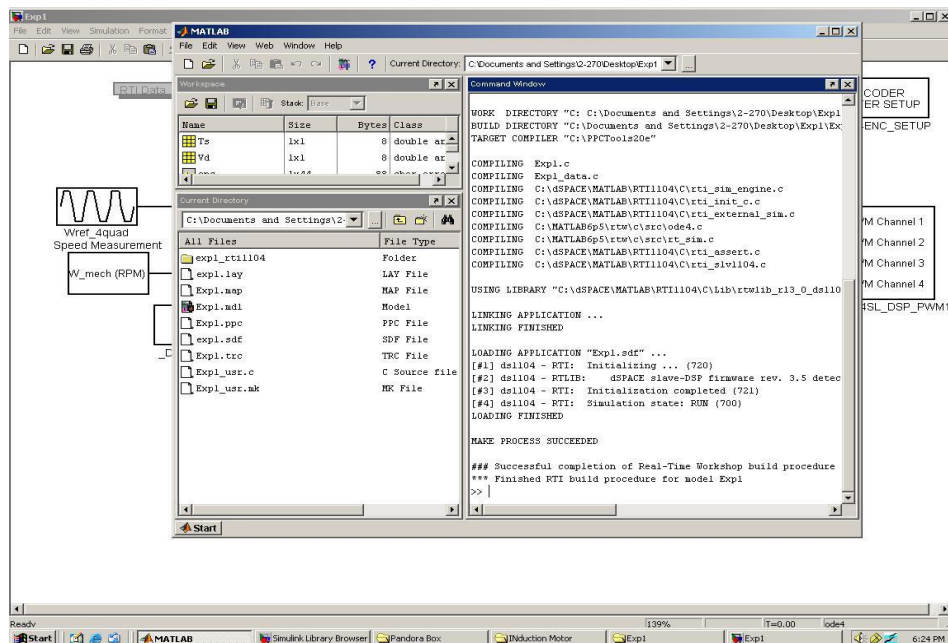

Figure 1.6: Building the Simulink program, real-time implementation
- Type  $Vd=42$  and  $Ts=1e-4$  in the Matlab prompt. Press CTRL+B to build the **control-system** in real-time now. Refer to Fig 1.6, note the sequence: 1) Compilation of C-code that is